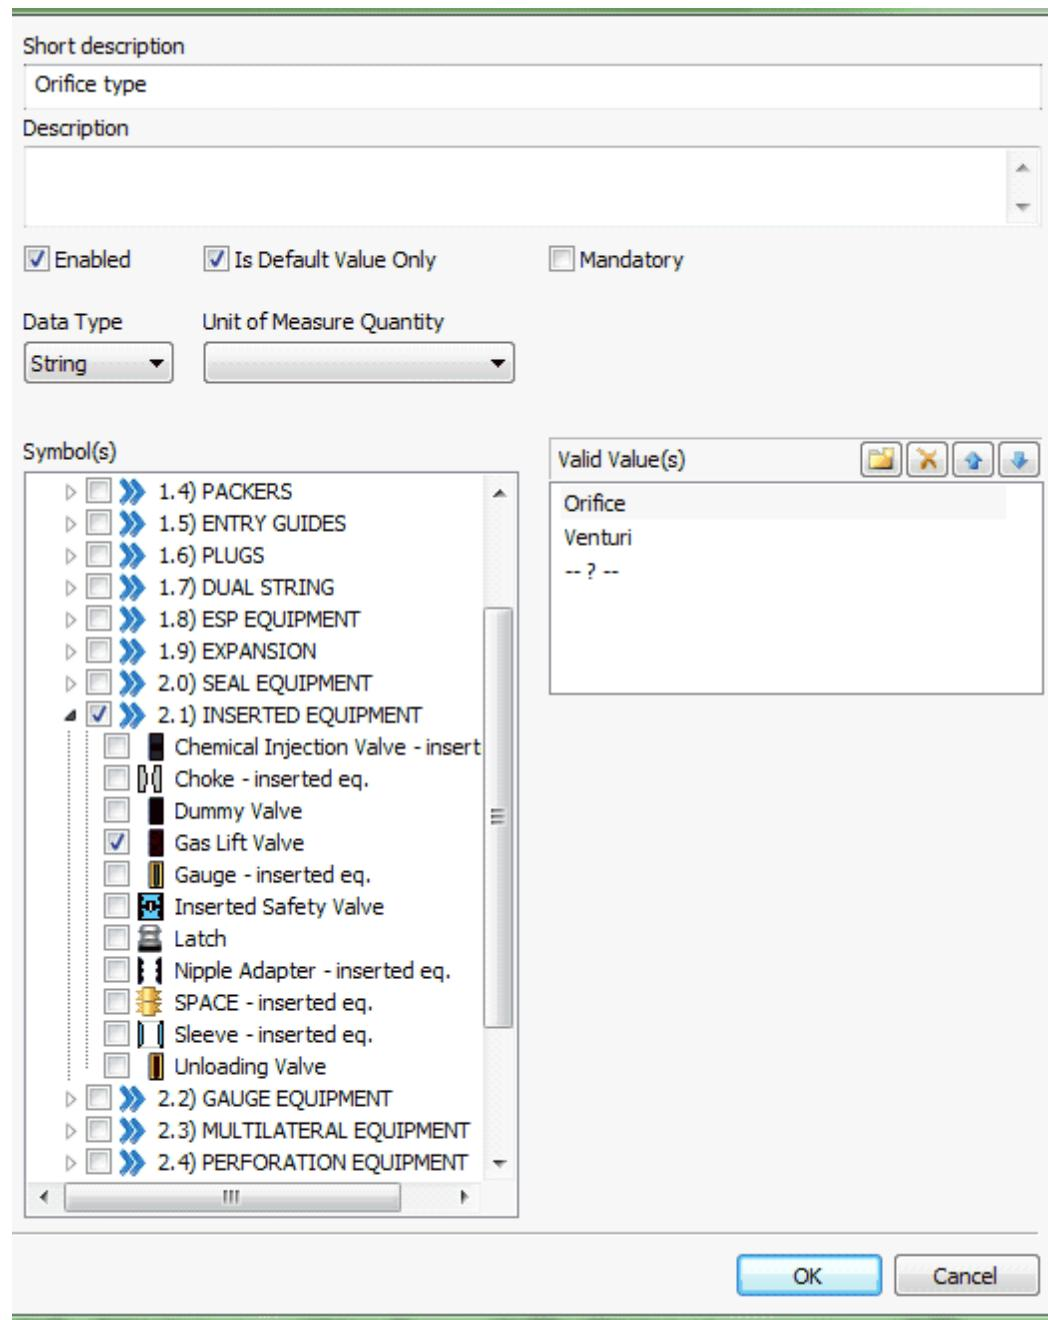

Figure 4. For default values.
2. We want to add Orifice Type as a dynamic attribute. This has default values as followed *Orifice* and *Venturi*. Select Enabled and Is Default Value Only. Thus, **these 3 options can be modified and selected when creating and using an existing part**. Add the 2 options under Valid Values, by clicking the **folder icon**. Furthermore; select String under Data type, for drop down choices. Leave Unit Measure Quantity blank. All is shown in Figure 4.
3. Since these are default values and not mandatory, it is possible to add a third option as seen in figure 4. It is not always the case that orifice types would be available for all gas